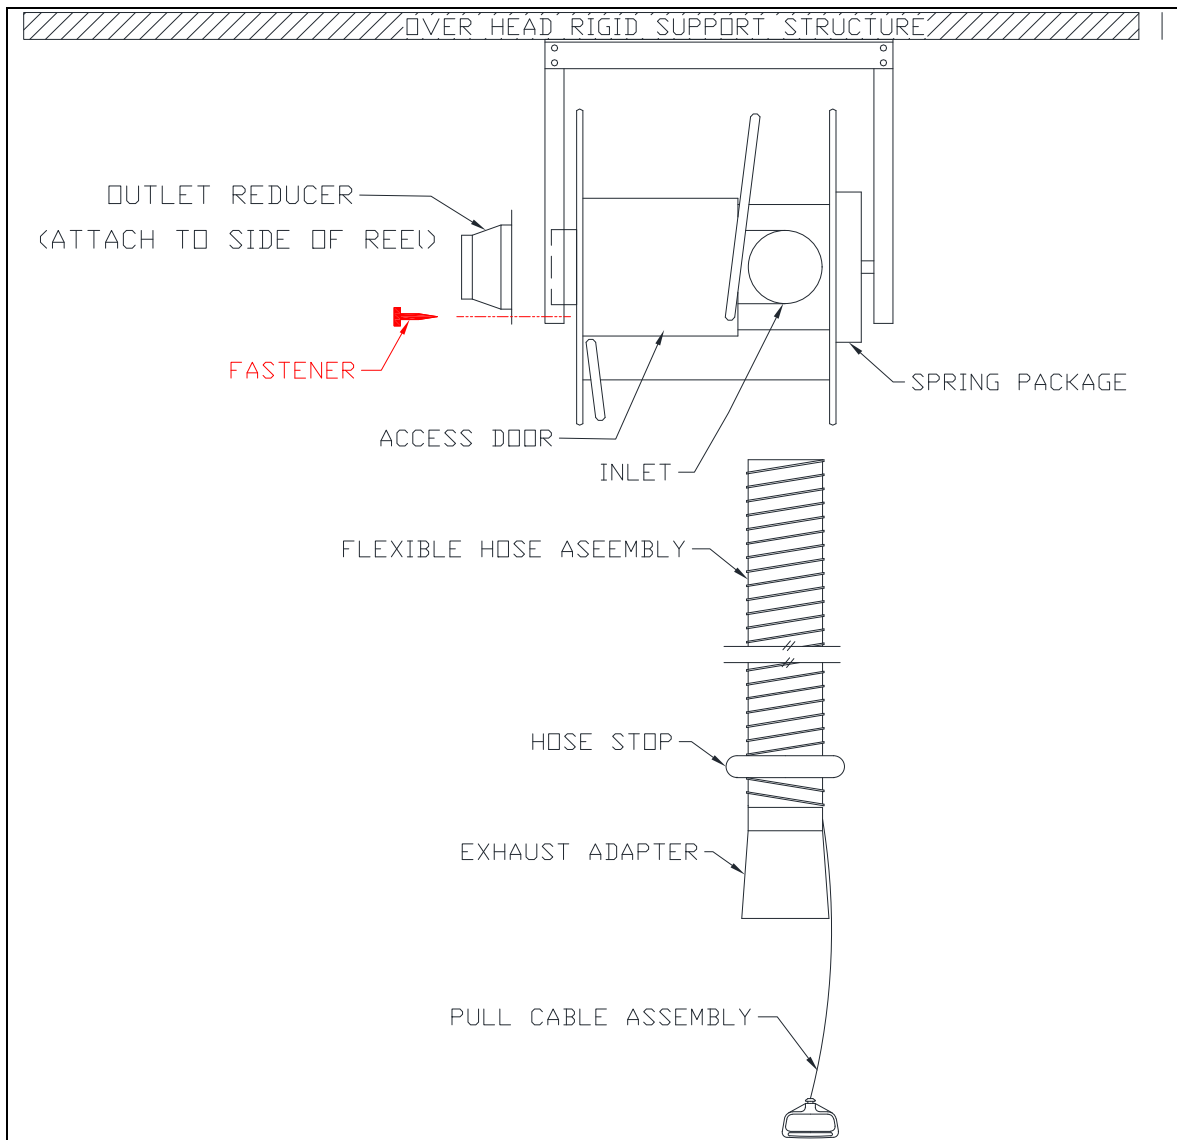

FIG2-HOSE REEL SYSTEM COMPONENT IDENTIFICATION
- Fasten the provided outlet reducer to the reel through the tabs. Reference FIG2.